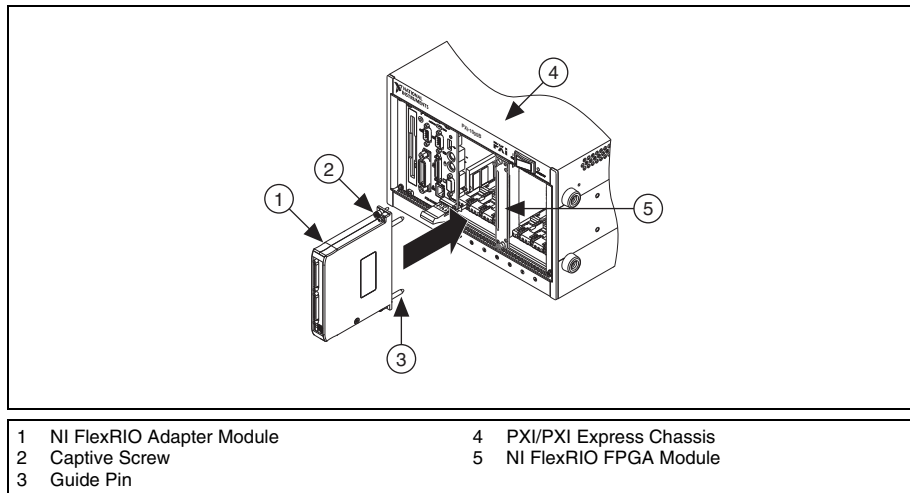

Figure 7. Installing the NI FlexRIO Adapter Module
1. Gently insert the guide pins and the high-density card edge of the NI FlexRIO adapter module into the corresponding connectors of the NI FlexRIO FPGA module, as shown in Figure 7. The connection may be tight, but do *not* force the adapter module into place.